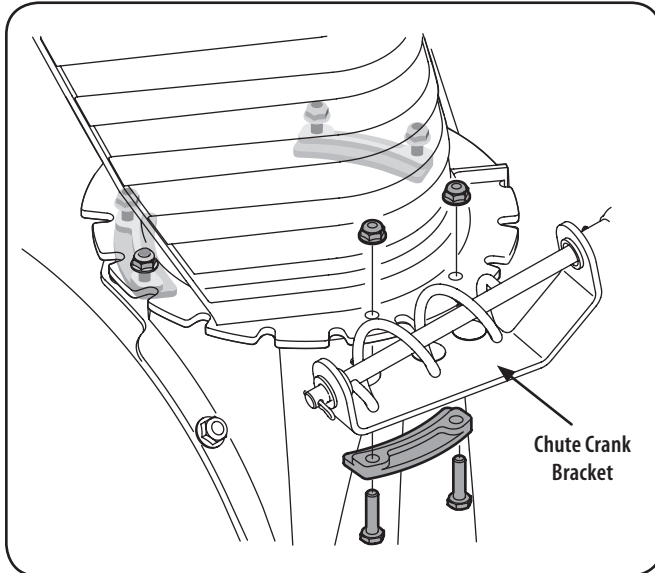

Figure 3-3
1. Loosen, but do not remove, the chute crank bracket in order to attached the chute assembly. See Figure 3-3.
2. Remove lock nuts and screws securing one of the flange keepers to the chute assembly. Loosen the fasteners of the other two flange keepers. See Figure 3-3.
4. Secure flange keeper removed earlier with lock nuts and screws. Tighten down nuts securing the other two flange keepers. See Figure 3-3.